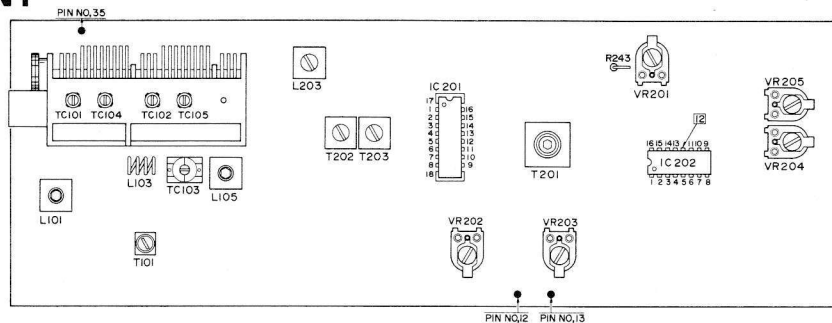

Figure 7
- \*See P.C.B. illustrations for alignment points/adjustments and Figure 7.
\*Refer to P.C.B. illustration and Figure 7 for test points/adjustments.